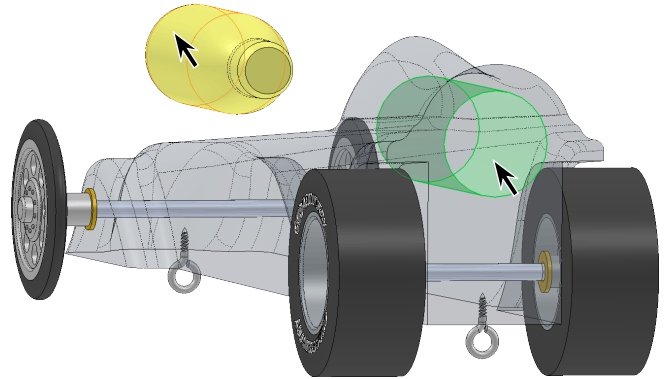

Fig. 21
Step 2. Click **cylindrical face of cartridge hole** and **cylindrical face of cartridge**, **Fig. 21**.